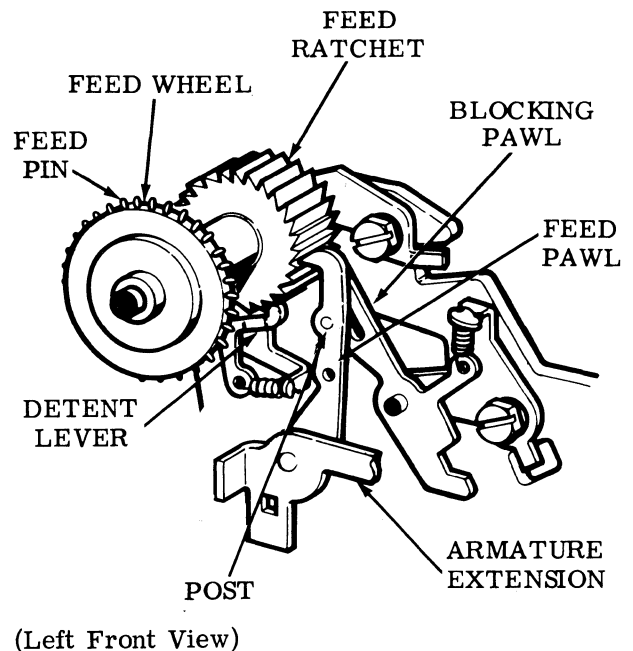

Figure 13 - Tape Feed Mechanism
3.18 Tape feeding will occur at the same time that the sensing pins are withdrawn. As the armature extensions drop down the pawl advances the feed ratchet one tooth (Figure 13). Associated with the feed ratchet are also a detent lever and a blocking pawl.
3.19 The detent lever, with its circular surface engaging the feed ratchet teeth, holds the feed ratchet and the feed wheel in its correct position during sensing (Figure 13).
heavy detent spring. It also prevents the pulling ahead of the tape, during sensing, by a tape winder, without the use of a heavy detent spring. During the upstroke of the armature extensions, the blocking pawl is rotated out of engagement with the tooth by the post on the feed pawl (Figure 13).